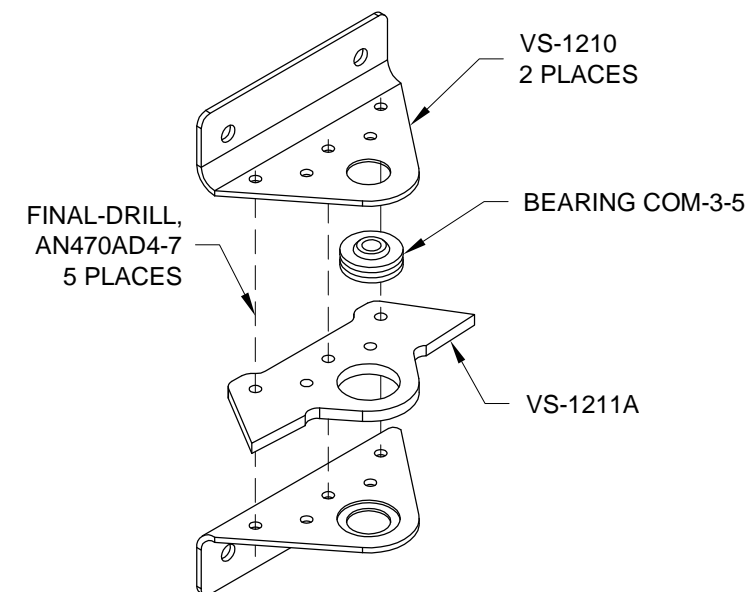

FIGURE 4:
Step 9: Insert the called out bearing into the largest hole in the VS-1211A Hinge Spacer. Re-cleco, then rivet the hinge spacer between the two VS-1210 Hinge Brackets in the same position as drilled per call-outs in Figure 4.